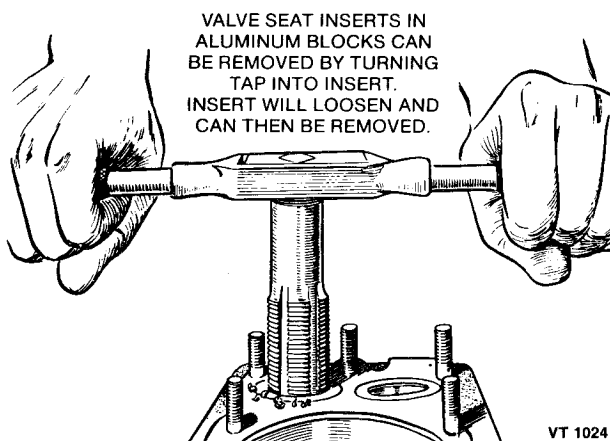

FIGURE 62. REMOVING VALVE SEAT
**Removal:** Use a standard 3/4-inch or 1 inch pipe tap (depending on the seat diameter) to remove the valve seat (see Figure 62). Place a small piece of flat steel or a flat washer on the top of the valve guide for the tap to bottom against. Turn the pipe tap in until the seat starts to turn in the seat recess. Continue to turn the tap and pull outward to remove the seat. If the valve guide is pushed downward by the tap, be sure to push it back into the proper position. Because a slight amount of recess metal will be removed by this operation, an oversize replacement seat must be used.